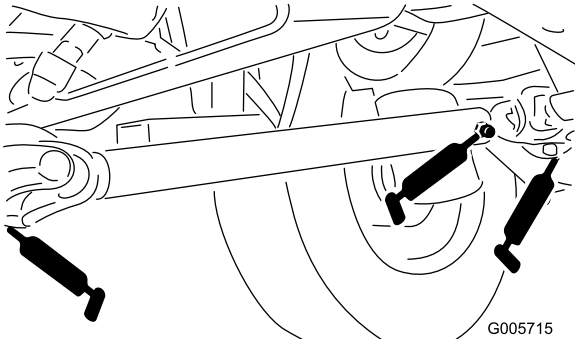

Figure 41
- Drive shaft (3) (Figure 41)
- Clutch housing (Figure 41)